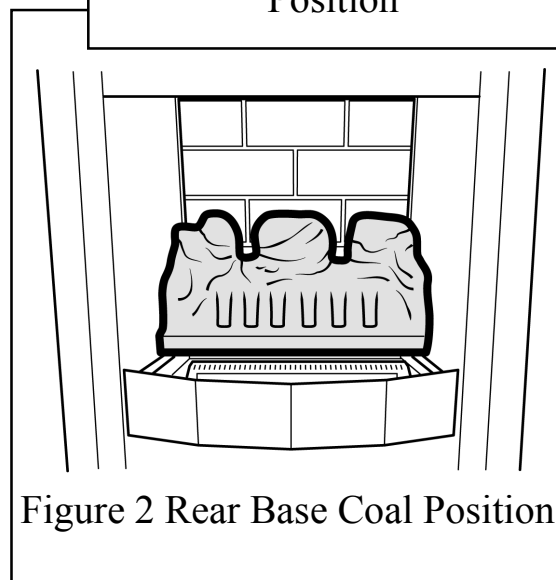

Figure 2 Rear Base Coal Position
6. Place the rear base coal in the firebox. It should rest on the ledges at the sides and back of the firebox and its rear face should touch the rear ceramic wall. See figure 2.